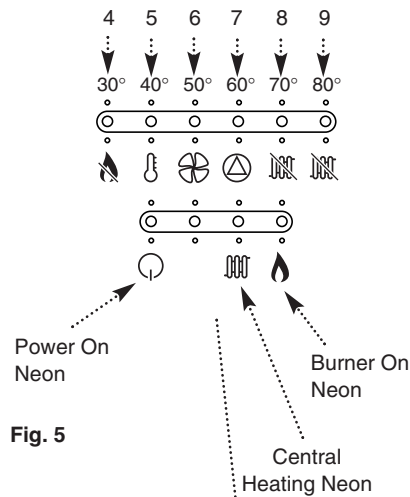

Fig. 5
3. The green power on indicator (Ⓢ) will illuminate (Fig. 5).
4. **On Position:** In this position the boiler will provide central heating or domestic hot water according to demand (Fig. 7). The boiler on (Ⓢ) will illuminate (Fig. 5). Neons 4 to 9 will illuminate as the temperature rises.
6. The orange burner on neon (🔥) will illuminate when the boiler is operating and the main burner is on (Fig. 5).